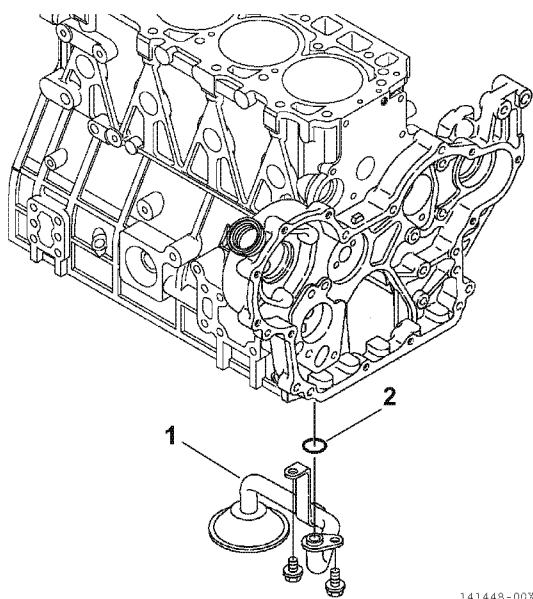

Figure 6-54
3. Remove the oil pickup tube (1, Figure 6-54) and O-ring (2, Figure 6-54).